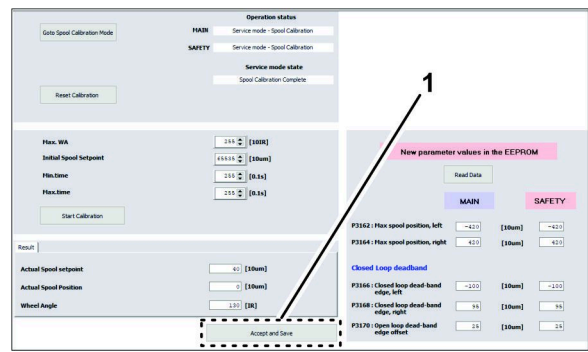

Figure 106
5. At the bottom of the spool calibration screen, click the ACCEPT AND SAVE icon (Figure 106).